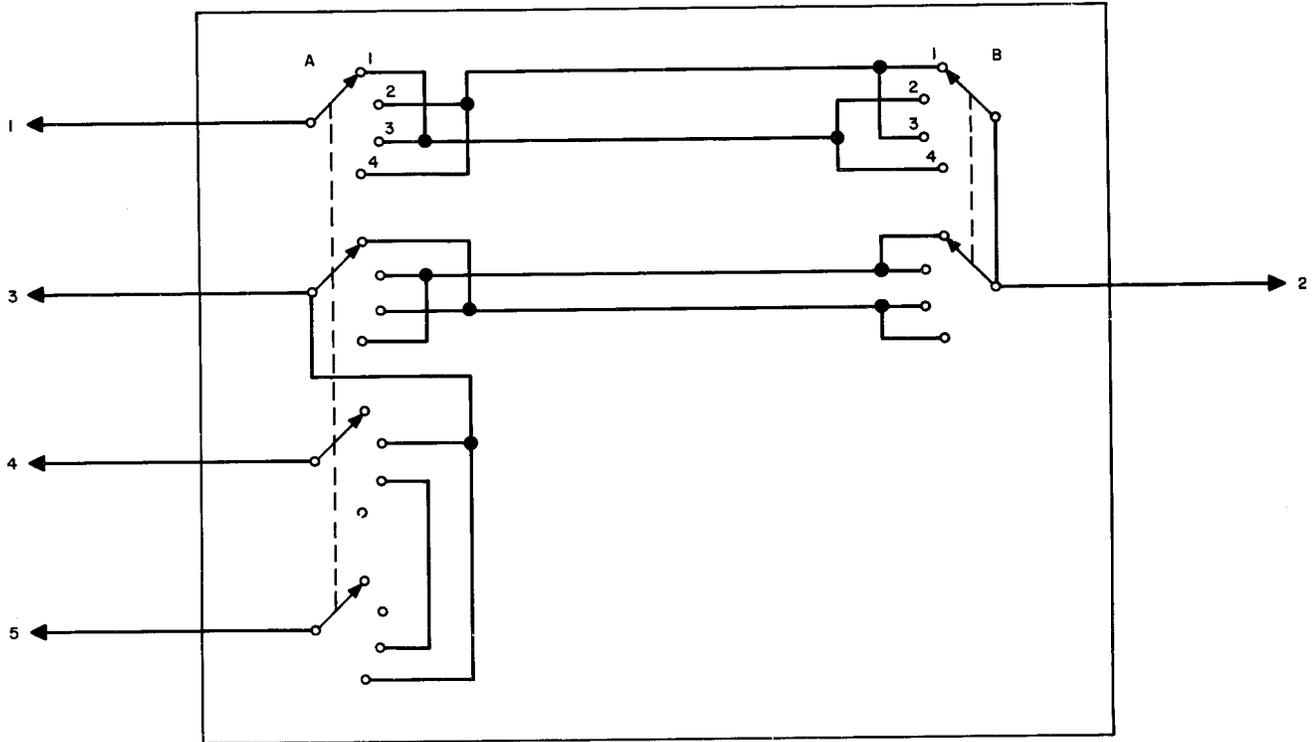

Fig. 26A — Automatic Gain Control 2 Test Set
- 1 — Test set such as shown in Fig. 26A.
(2) Five numbered strapping pins are located on the AGC2 circuit pack. This section of the test will determine which pins, if any, are to be strapped. Connect the test set shown in Fig. 26A to the five strapping pins located on the AGC2 circuit pack. Set both switches to position 1.